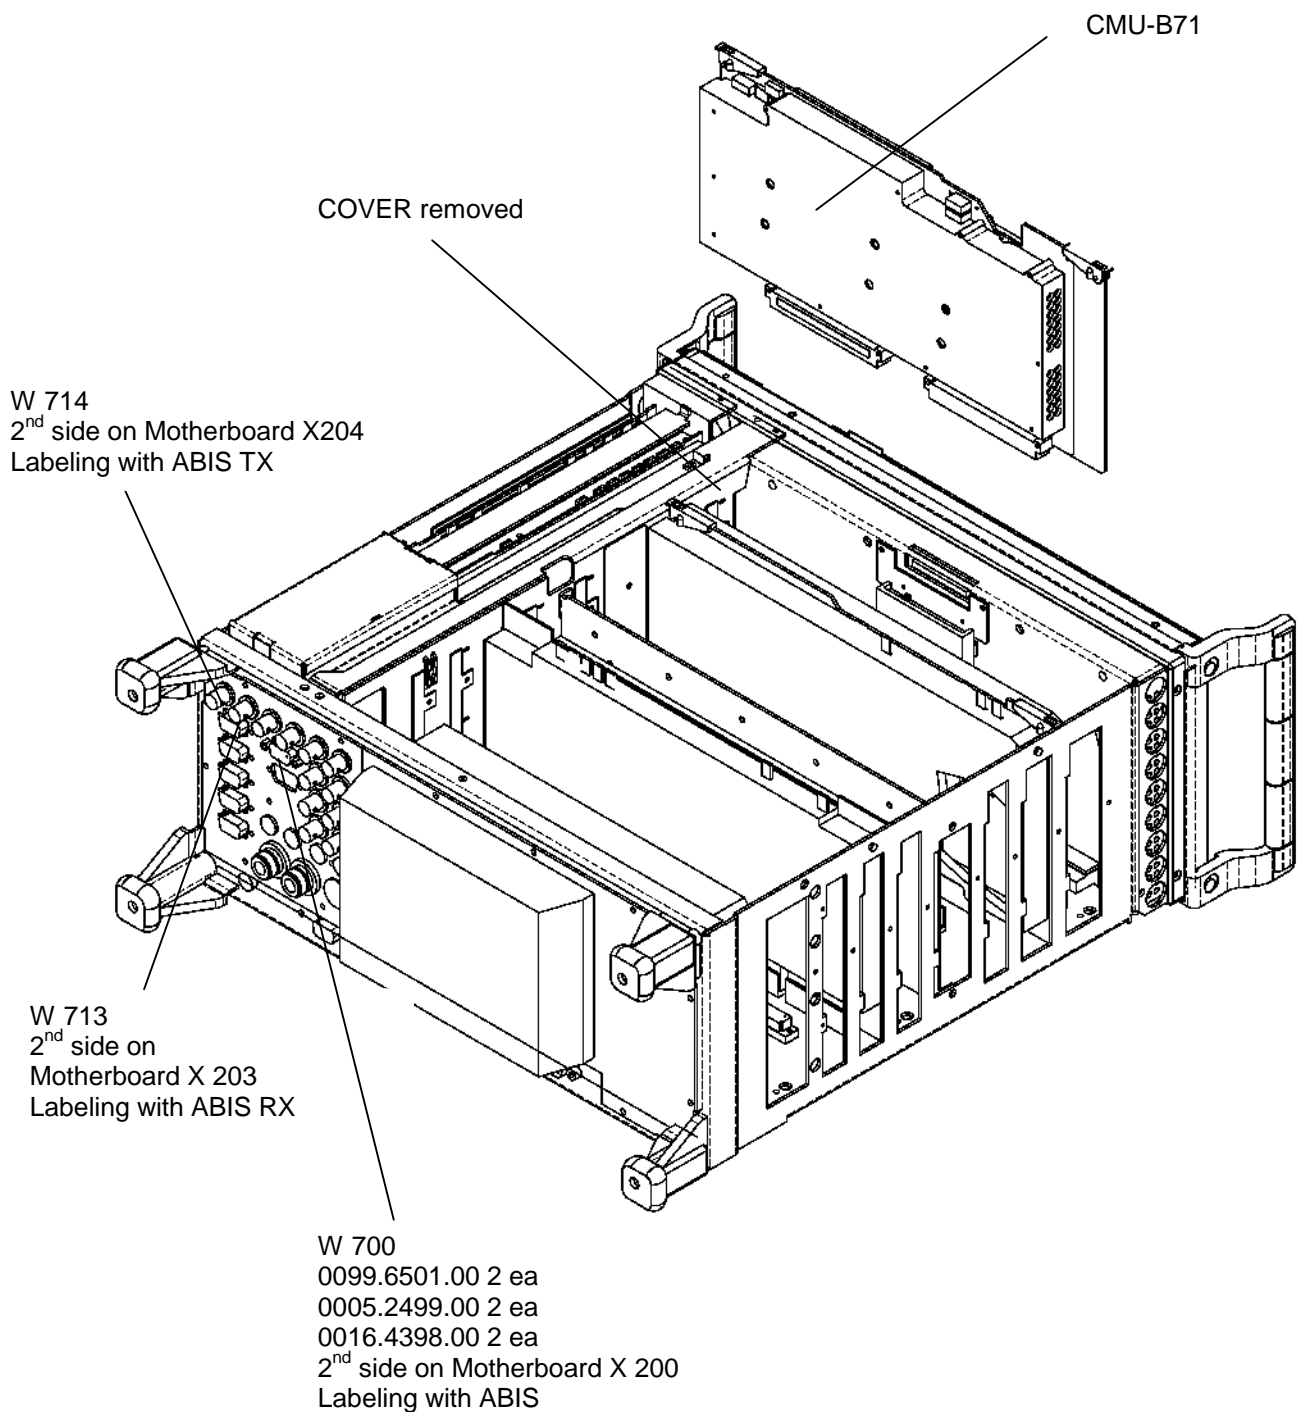

Fig. 3
- 2.1 Remove cover on the vent in the intermediate panel of the 1st slot as seen from the front (Fig. 3).